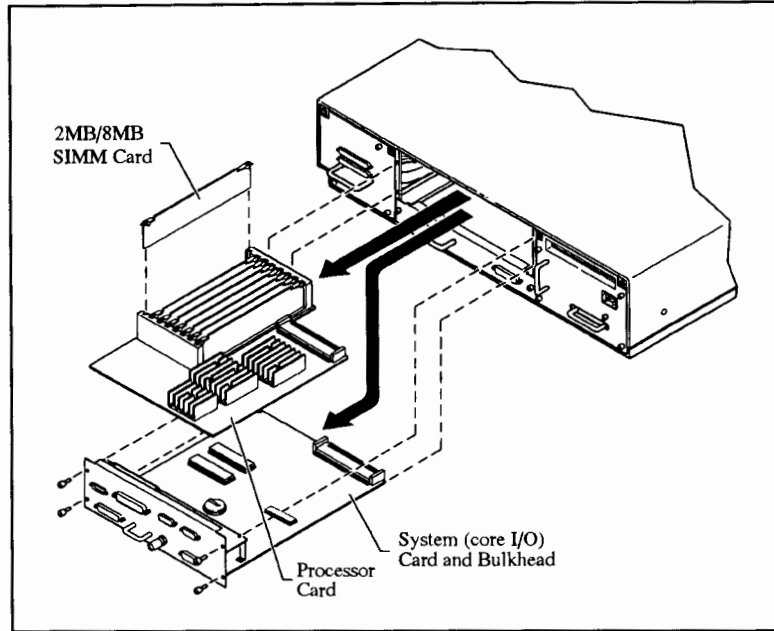

Figure 5-4. SIMM Card Removal
- 4). Remove the *suspect* SIMM card on the Processor Card and replace it with the replacement SIMM card the same size as shown in Figure 5-4. **Skip Step 5.**